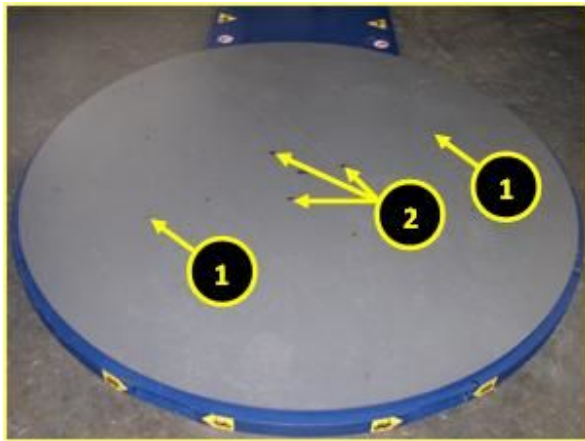
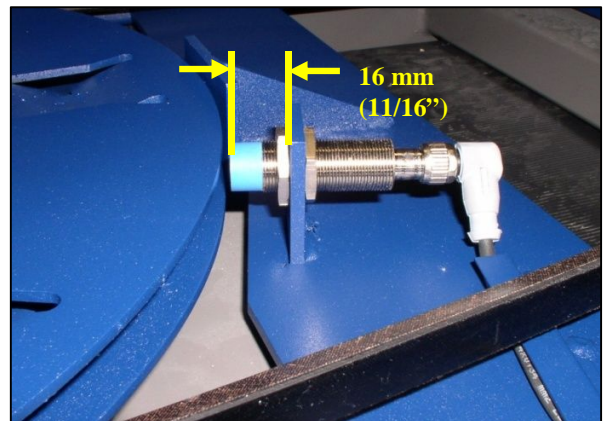

Figure 7.25
Figure 7.26
1. Install the eye bolts on the turntable in the tapped holes. (Figure 7.25)
5. Use (2) 24 mm wrenches to remove the proximity sensor.
7. Install the new sensor. Adjust the switch to extend 16 mm (11/16") through the mount (Figure 7.26).